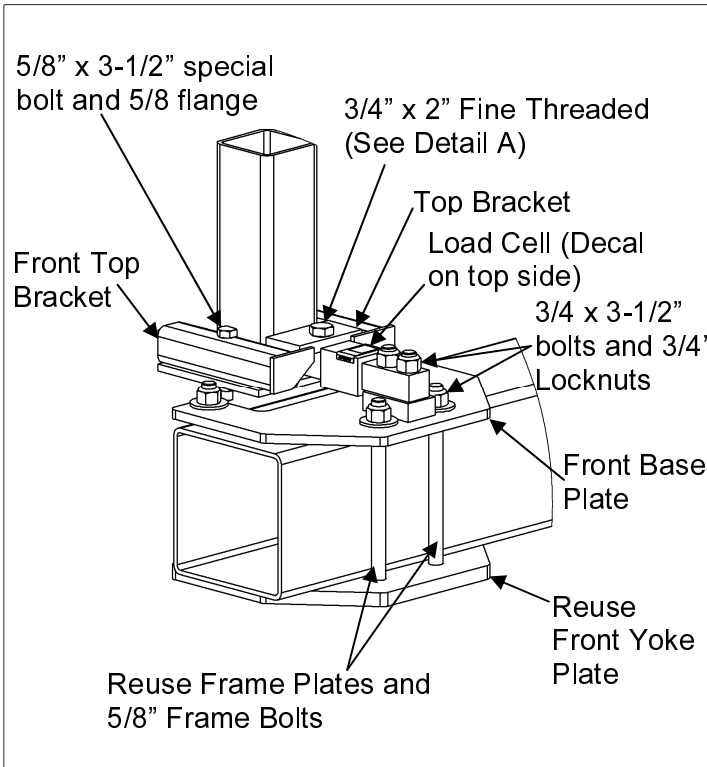
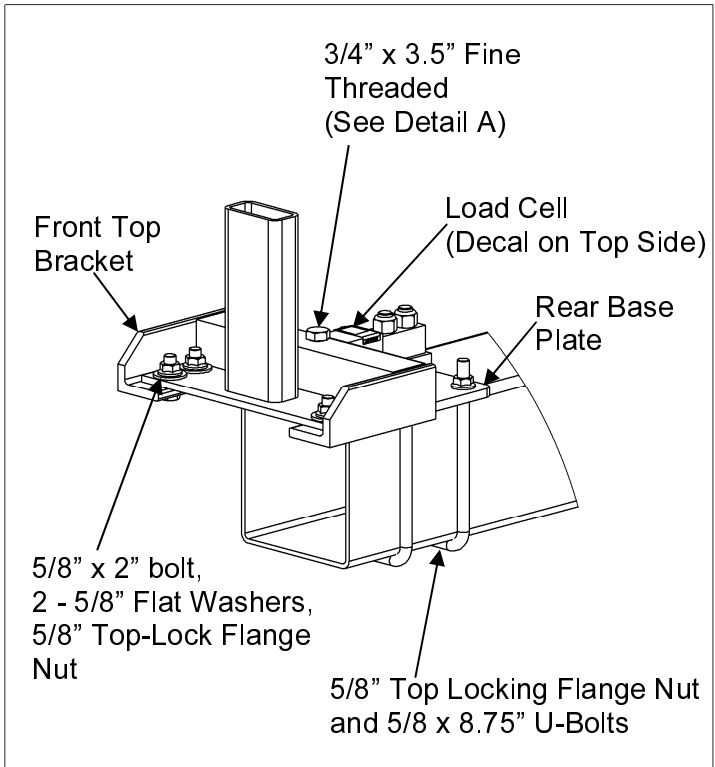

Figure 2
Figure 3
**Use Figures 2 and 3 for steps 9 - 13**
9. Install the front top bracket by using the 5/8 x 3 1/2" special bolts. The cropped bolt edge is installed next to the 4 x 4 tubing and from the top (see Figure 2). Install the front top bracket by using 5/8 x 2" bolt and two 5/8" washers, flange nuts (see Figure 3).
10. Assemble load cell to the front base plate by using 3/4 x 3 1/2 in. bolts and locknut. Do not tighten bolts completely. You may have to slide load cell while aligning base and top brackets. **TOP DECAL NEEDS TO BE ON TOP OF LOAD CELL!** (See Figure 2 or 3)
11. Install front base plate weldment to the main frame with the yoke plate on the bottom. Reuse the original frame bolt (see Figure 2). Install front base plate weldment to the main frame with the supplied 5/8 x 8.75" U-bolts and 5/8 top lock flange nuts (see Figure 3).